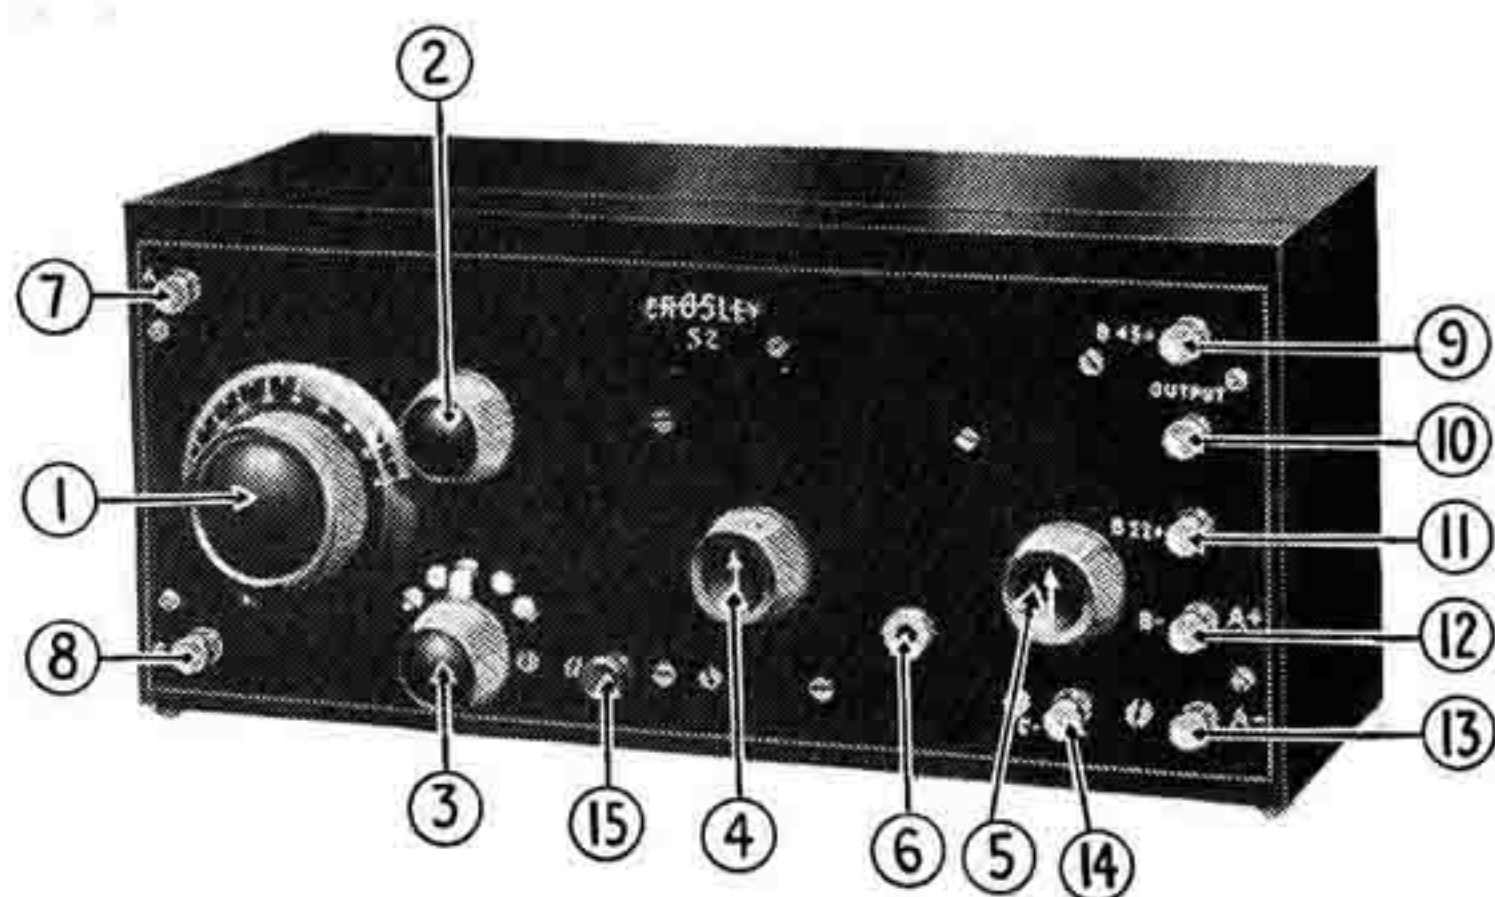

Figure 4
Lead-in Wire. This wire should be connected to the Binding Post marked "A" in the upper left hand corner of your set, shown as No. 7 in Figure 4. Scrape the wire clean and bright at the end and screw down the Binding Post tightly.
Ground Lead Wire. This wire is connected to the set at the Binding Post marked "G" in the lower left hand corner of the set shown as No. 8 in Figure 4. Scrape and clean as mentioned before.
All proper wire connections having been made, look at the Rheostat Knobs Nos. 4 and 5 in Figure 4. Turn the Rheostats as far to the left as they will go and push in the switch marked 15 in Figure 4. This operation turns off the current completely. Next take the three tubes and place them gently in their sockets in the set. (If you use one 200 and two 201A tubes place the 200 tube in the **FIRST** socket on the left.) **NOW BE VERY CAREFUL**—To make sure you have made no mistakes in connecting up the set, pull out the switch and turn the Rheostats very slowly to the right for about a quarter of an inch. The current is now passing thru the set. Now gradually turn up the Rheostats. If no mistakes have been made the tubes will light up slowly.
1. To start, place the tap switch marked 3 in Figure 4 on the fourth tap from the left.
2. Pull out the switch. Now turn the Rheostats to the right until you hear a slight hissing noise. Turn the condenser dial marked 1 in Figure 4 very slowly from 0 to 100 and with the Varind Knob marked 2 pulled forward about three-quarters of an inch away from the Panel.
6. The tap switch marked 3 in Figure 4 has 5 taps on it. You should move the switch to different taps from time to time. You will probably locate broadcasting stations on all taps. Wave lengths are increased as you move from left to right.